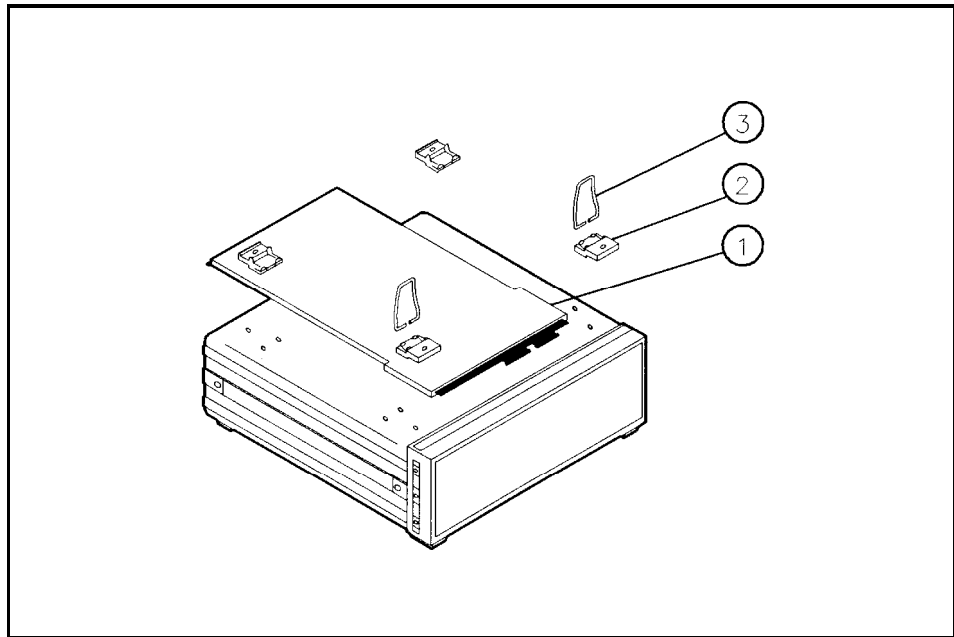

Figure 2-4. Removing the Information-Card Tray
3. The information-card tray located on the bottom of the RF-Display section requires a space of approximately 2 cm below the instrument when rack mounting. See callout 1 in Figure 2-4. (No filler strip is provided.) If you wish to remove the information-card tray, remove the feet and tilt stands. See callouts 2 and 3 in Figure 2-4.